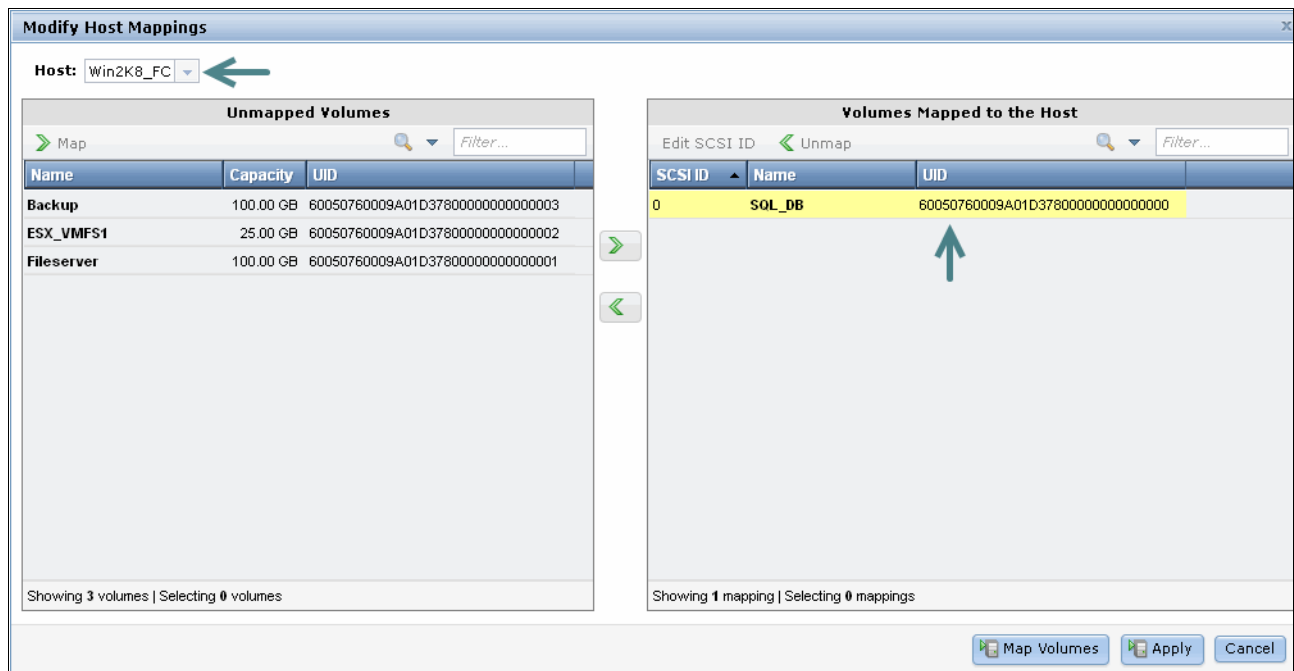

Figure 5-21 Modify host mappings
2. The **Modify Host Mappings** window opens. Your host and the newly created volume are already selected. Click **Map Volumes** and the volume is mapped to the host, as shown in Figure 5-21.